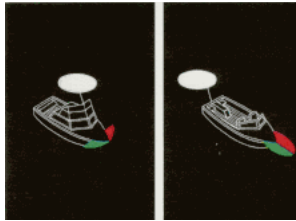

Figure 2
Motorboats of less than 12 meters (39 feet, 4 inches) in length, may show the lights in either Figure 1 or Figure 2. Boats of less than 7 meters (23 feet) whose maximum speed cannot exceed seven (7) knots may exhibit an all-around white light, and, if practicable, sidelights instead of the lights prescribed above, in international waters only.